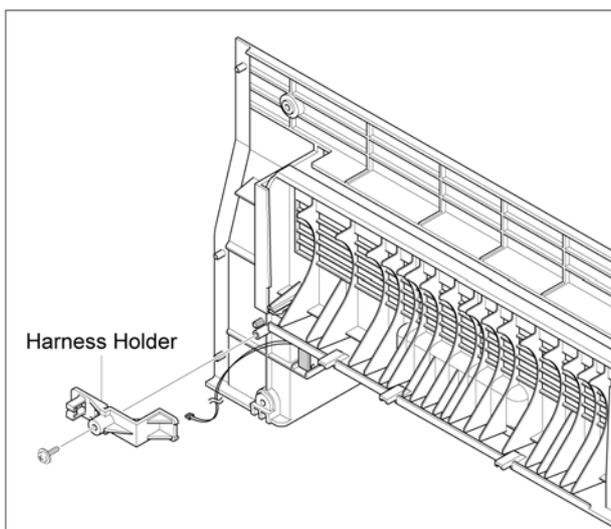

Figure 1
2. Release the harness from the Harness Holder. Remove 1 screw, then the Harness Holder, Figure 1.